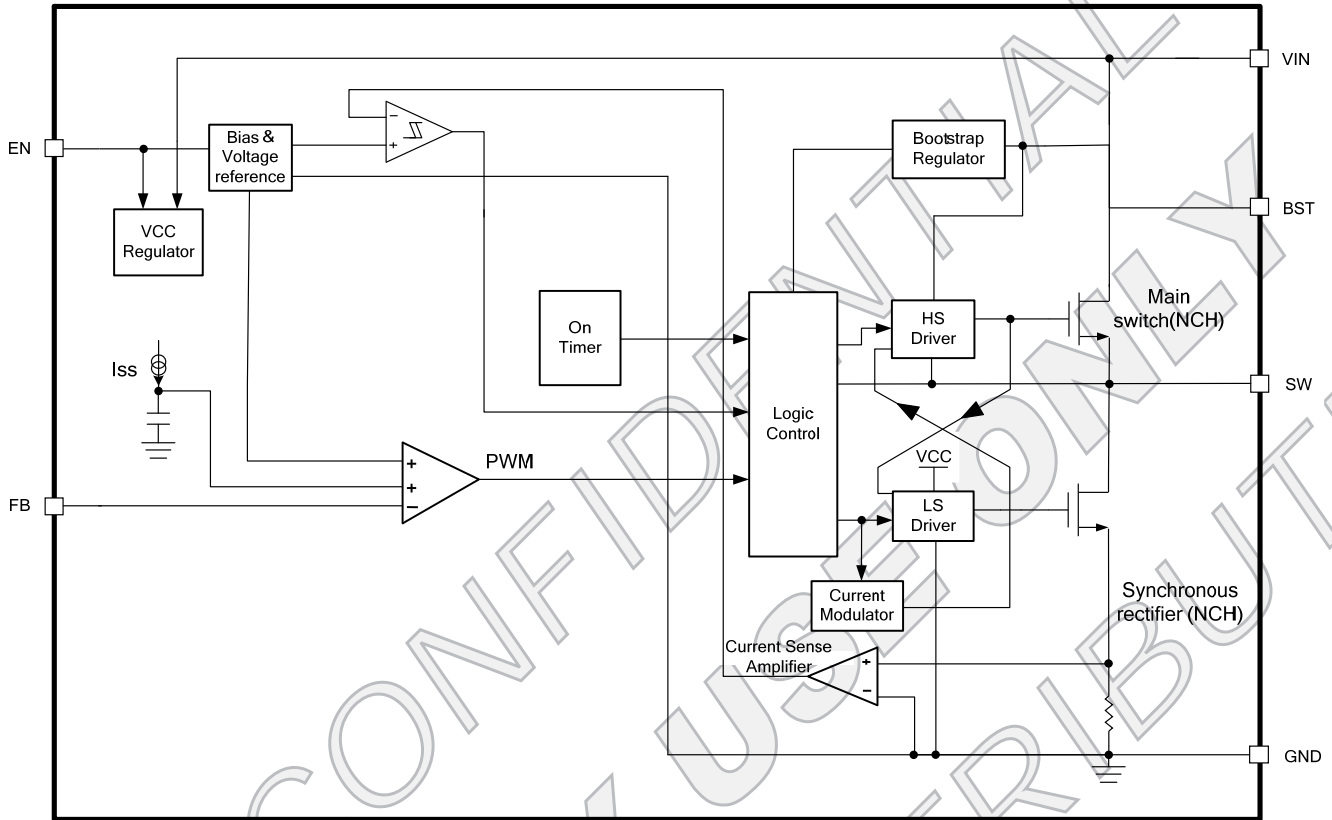

Figure 1: Functional Block Diagram
MP1652 has valley current limit control. During LS-FET ON state, the inductor current is monitored. When the sensed inductor current hits the valley current limit, the LS limit comparator (shown in Figure 1) turns over, the device enters over-current protection mode, HS-FET will wait until valley current limit disappear to turn on again. Meanwhile, the output voltage drops until VFB is below the under-voltage (UV) threshold—typically 75% below the reference. Once UV is triggered, the MP1652 enters hiccup mode to periodically restart the part.